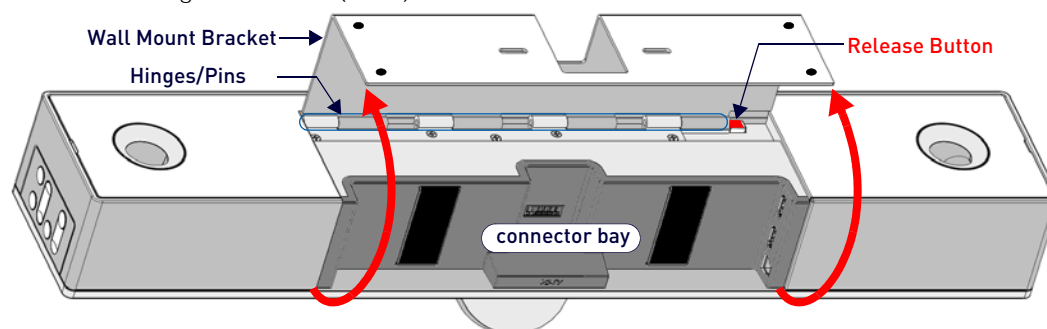

FIG. 6 Acendo Vibe Bottom View - opening the wall mount bracket
2. Press and hold the **Release Button** to slide the Bracket out (over the button) to disengage the pins on the Bracket from the hinges on the unit (FIG. 6).